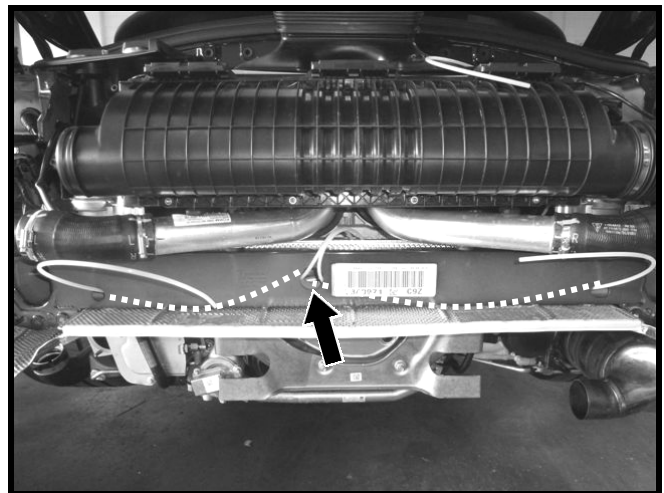

Fig. 09
- 8 Route the vacuum lines with the Y-piece towards the right and left through the frame (see fig. 09).